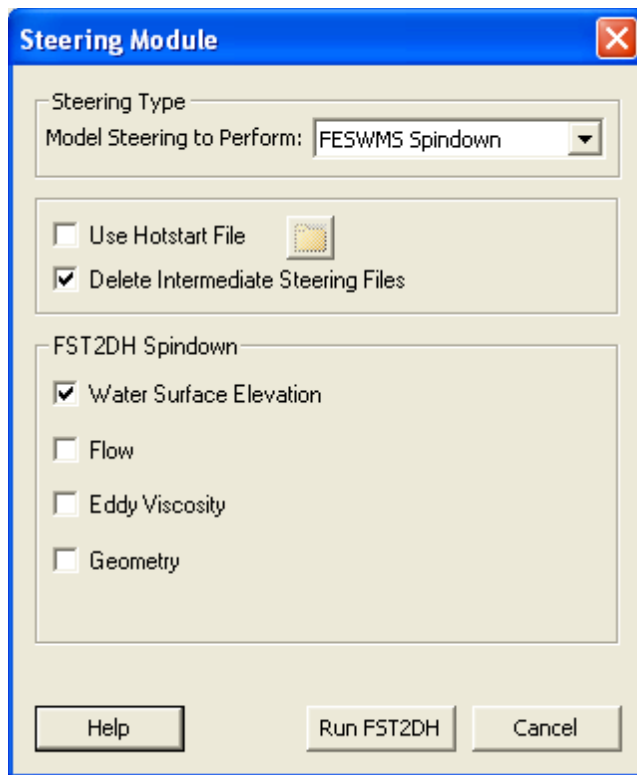

Figure 16-7. Steering Module dialog.
2. In the *Steering Module* dialog select *Water Surface Elevation* for the *FST2DH Spindown* method as shown in Figure 16-7.